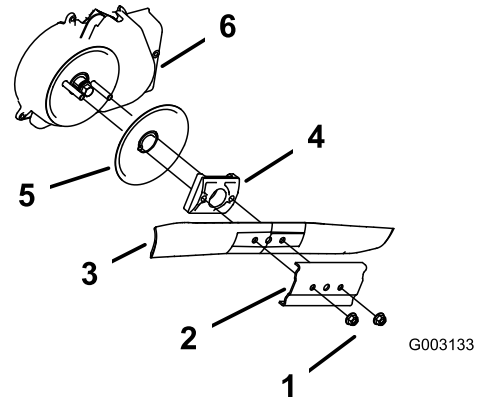

Figure 29
3. Remove the 2 blade nuts and the stiffener (Figure 29).
4. Remove the blade (Figure 29).
5. Remove the blade driver and the anti-scalp disk (Figure 29).
6. Remove the blade-brake-clutch shield (Figure 29).
10. Install the blade and the stiffener with the 2 blade nuts that you previously removed (Figure 29).